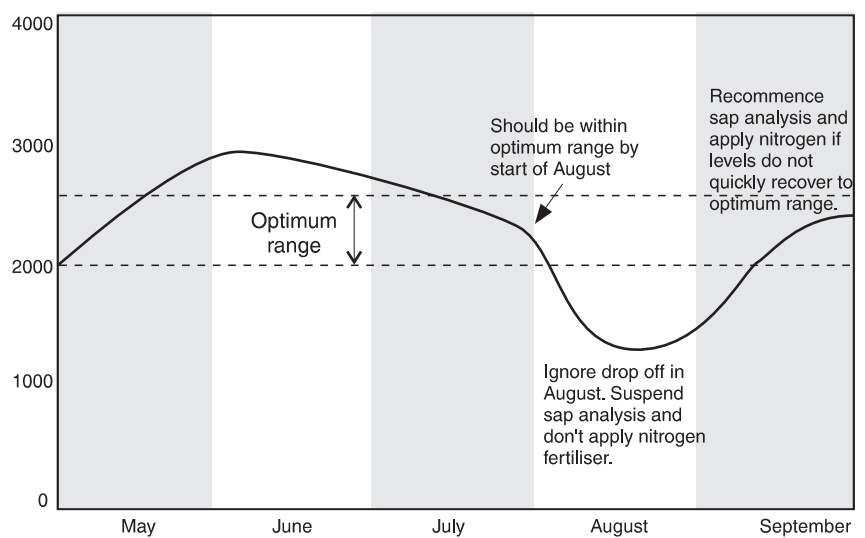

Figure 2. Graph of seasonal nitrate nitrogen levels for Kabarla variety
- Try to have plant nitrate levels close to optimum going into August so that plants can commence fruiting again quickly after the turn-off period in August (Figure 2).